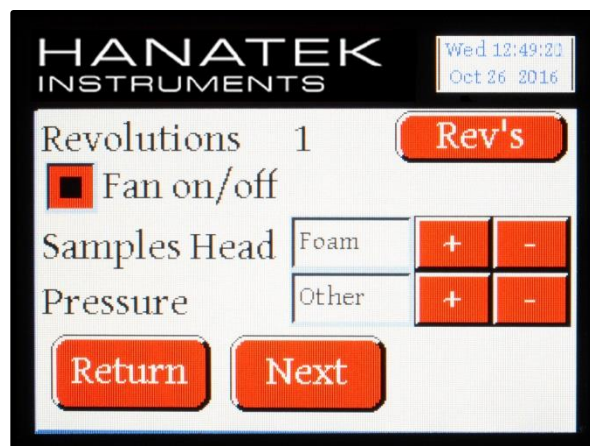

Fig 2 – Configuration screen
- To select the reported test pressure* press the +/- buttons to cycle through the available options (fig 2).